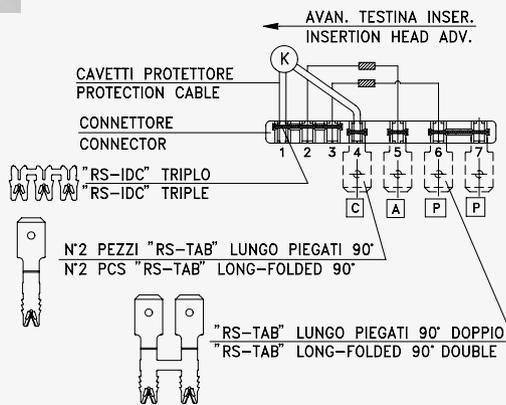

Fig. 4
– **B** – con terminali "RS-TAB" (fig. 4). – **C** – con terminali femmina "RS-FEMM" (fig. 3). – **D** – con terminali "RS-PIN".
– **B** – with terminals "RS-TAB" (fig. 4). – **C** – with female terminals "RS-FEMM" (fig. 3). – **D** – with terminals "RS-PIN".